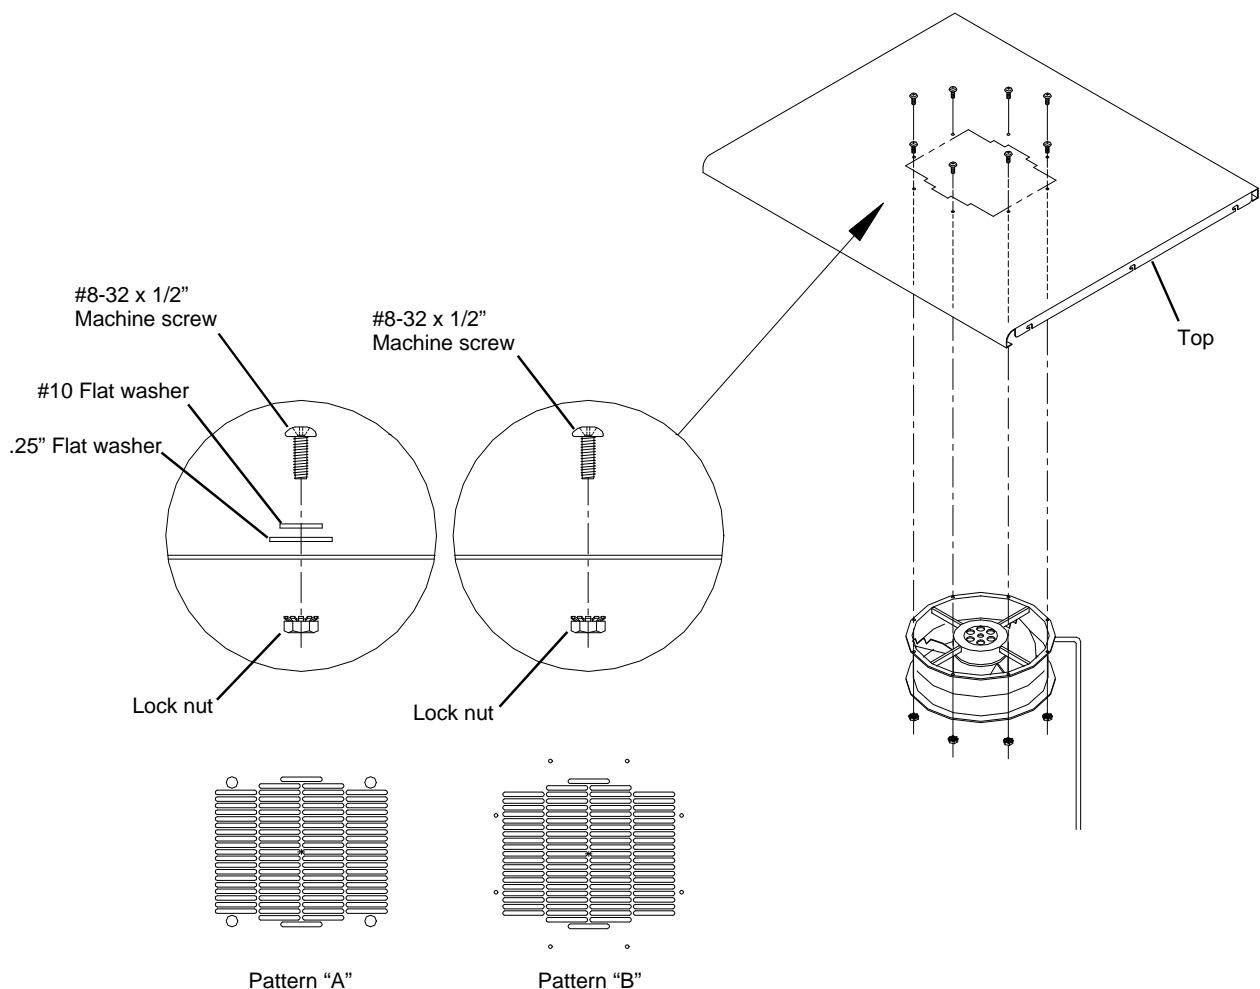

Figure 8
**NOTE:** The Top Panels have two screw hole patterns. Those shipped through the first quarter of 1996 will have pattern "A". Those shipped after will have pattern "B". See **Figure 8**.
2. With the screw head on the outside, attach one screw and nut (finger tight) to opposite sides. Start the remaining six screws. Place the ground wire (green with terminal end) onto the nearest screw before the nut. Tighten all screws. See **Figure 8**.